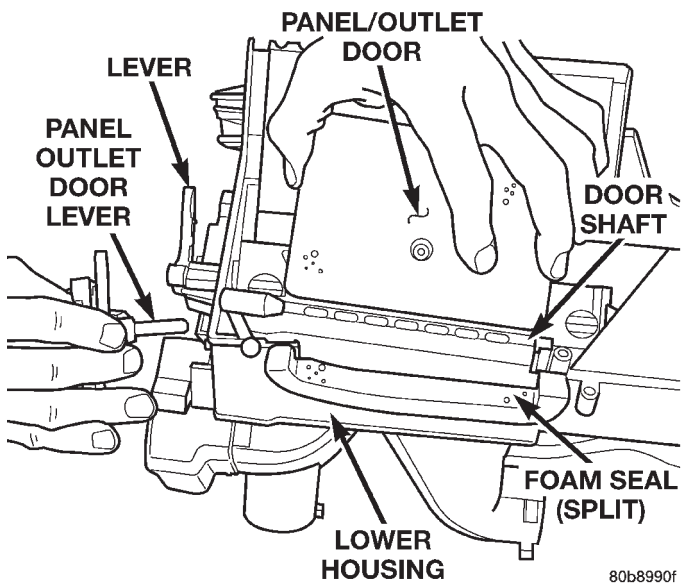

Fig. 66 Panel Outlet Door
(11) Pinch the retention tabs holding the panel outlet door pivot shaft to the case. The 3 plastic tabs, located on the inside of the case, are part of the shaft retainer (Fig. 66).